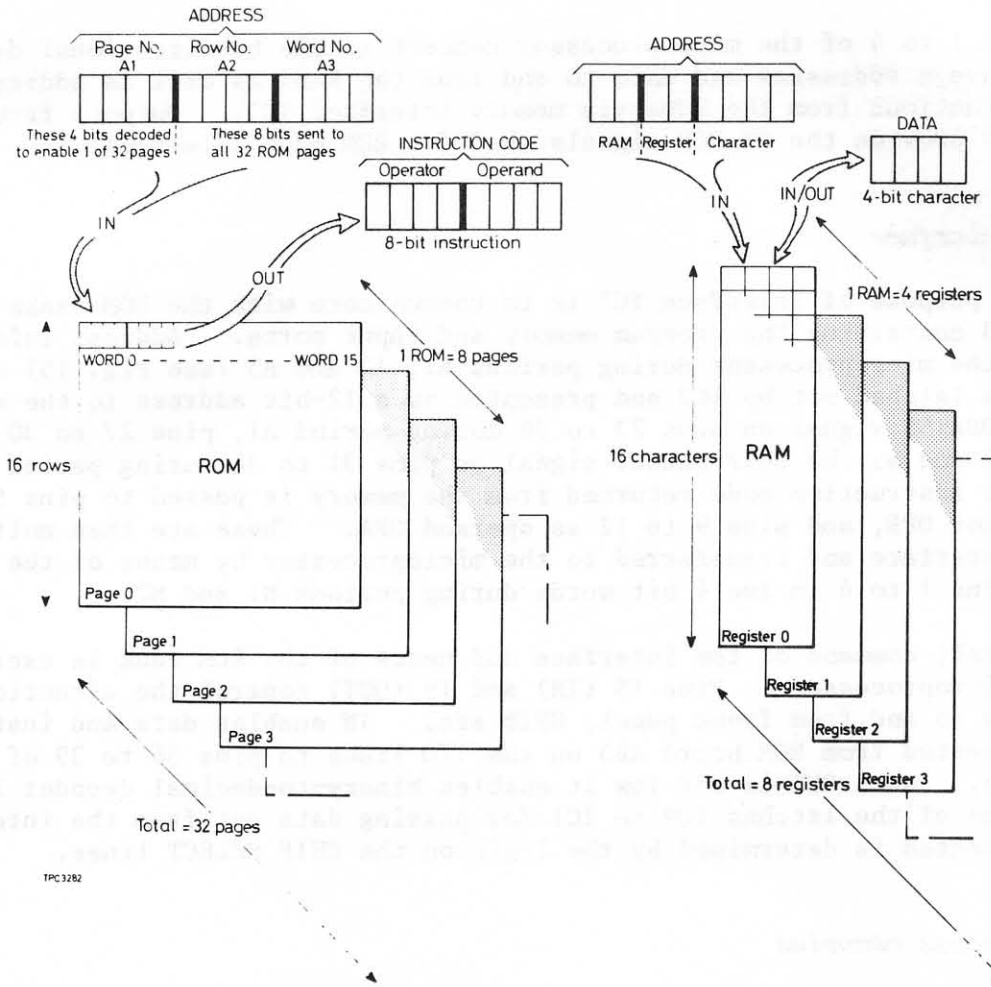

Fig. 16 Memory operation
57. IC5 and IC6 perform two distinct functions. As memories they each store 320 bits arranged in 4 registers of sixteen 4-bit characters plus four special, status characters (see Fig. 16). The registers are used for temporary storage and are similar to the pages of the ROMs. The RAMs also provide output ports via output buffers IC7 and IC8. IC5 output provides the main data bus for sending information to various parts of the instrument, e.g. frequency synthesizer, programmable attenuators. IC6 output provides data for the front panel.
58. The memory bank comprises IC1, IC3, IC5 and IC8. These are ultra-violet erasable, programmable, ROMs each consisting of 8 pages of memory. Each page may be considered as a matrix of 16 rows each of 16 words with each word comprising 8 bits (see Fig. 16). Total memory capacity of the four IC memory is therefore 8192 8-bit instructions. Access to the memory is by a 12-bit address from the interface on board AB2 and comprises three 4-bit groups which are sent in the timing periods A1, A2 and A3. Period A1 is used to define the page, A2 the row and A3 the word.